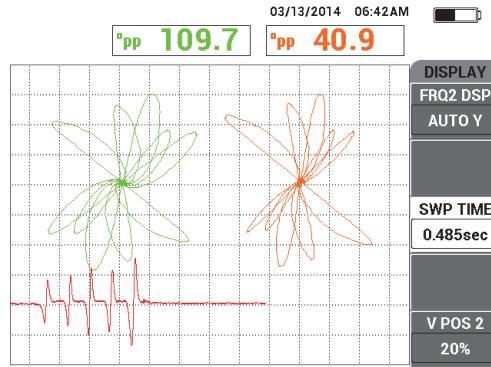

Figure 5-150 The strip chart display
- Depending on your requirements, change the display parameters to display the frequency 2 as a strip chart (sweep) by pressing the DISP menu key () three times and setting the **FRQ2 DSP** (A key) to **AUTO Y** (see Figure 5-150 on page 232).